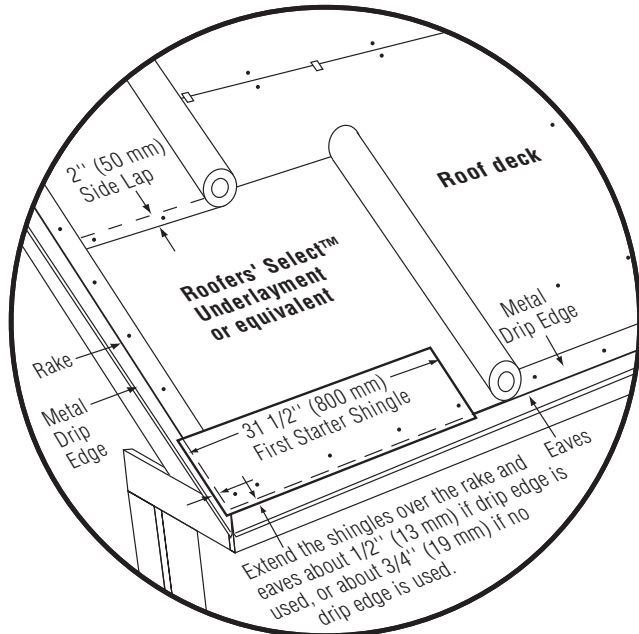

Figure 16-8: Standard slope underlayment and starter drip edge details.
- For all three shingle styles, cut $4\frac{1}{2}$ " off the length of the left side of the first starter strip and apply at the lower left corner of the roof. This $31\frac{1}{2}$ " starter strip should overhang the rakes and eaves $\frac{1}{2}$ " when drip edge is used or $\frac{3}{4}$ " when no drip edge is used. Continue with full 36" lengths of starter strips all along the eaves (Figure 16-8).